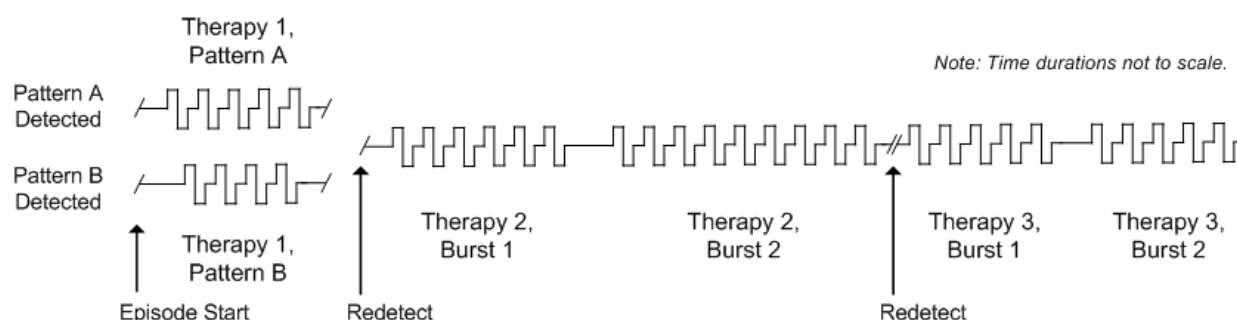

Figure 62 A THERAPY SEQUENCE DELIVERED IN RESPONSE TO A SPECIFIC EVENT DETECTOR
- You can select different bursts to be delivered in response to a specific event detector (Pattern A or Pattern B), as depicted in **Figure 62**; or